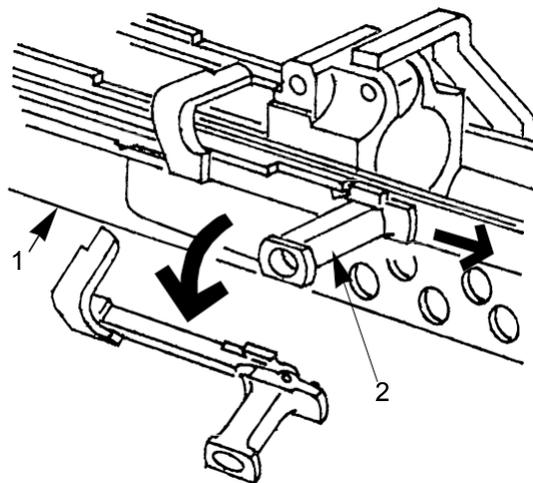

Figure 21. Removal of Cocking Handle Assembly.
3. Remove cocking handle assembly (Figure 21, Item 2) from receiver assembly (Figure 21, Item 1) by sliding it forward and tilting it down.
2. Visually inspect cocking handle and if bent or broken, replace cocking handle assembly (Figure 21, Item 2).